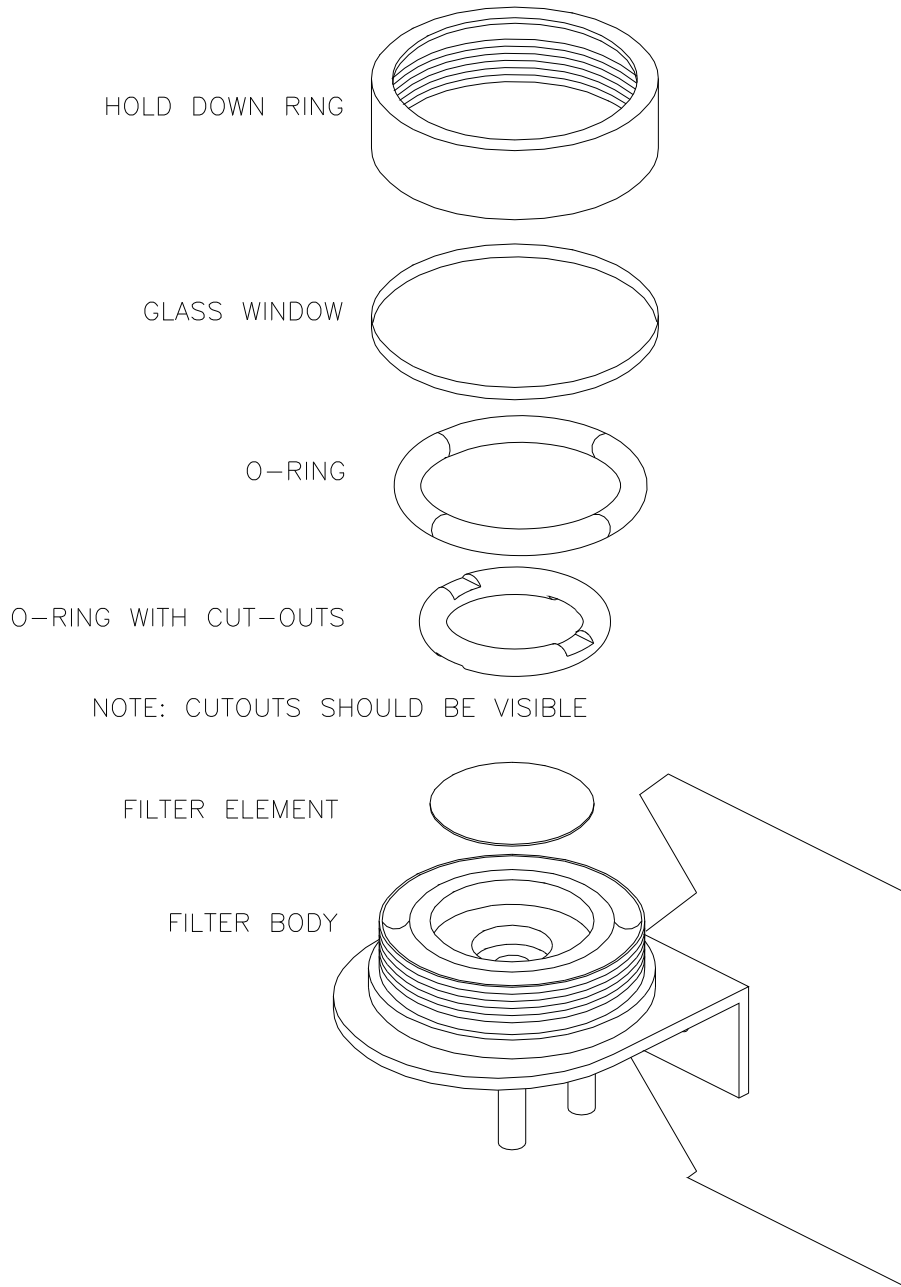

Figure 2 Replacing the Particulate Filter
2. Locate both filters on the left and right side of the Pump Module front panel. See **Figure 2** for an exploded view of the filter assembly.